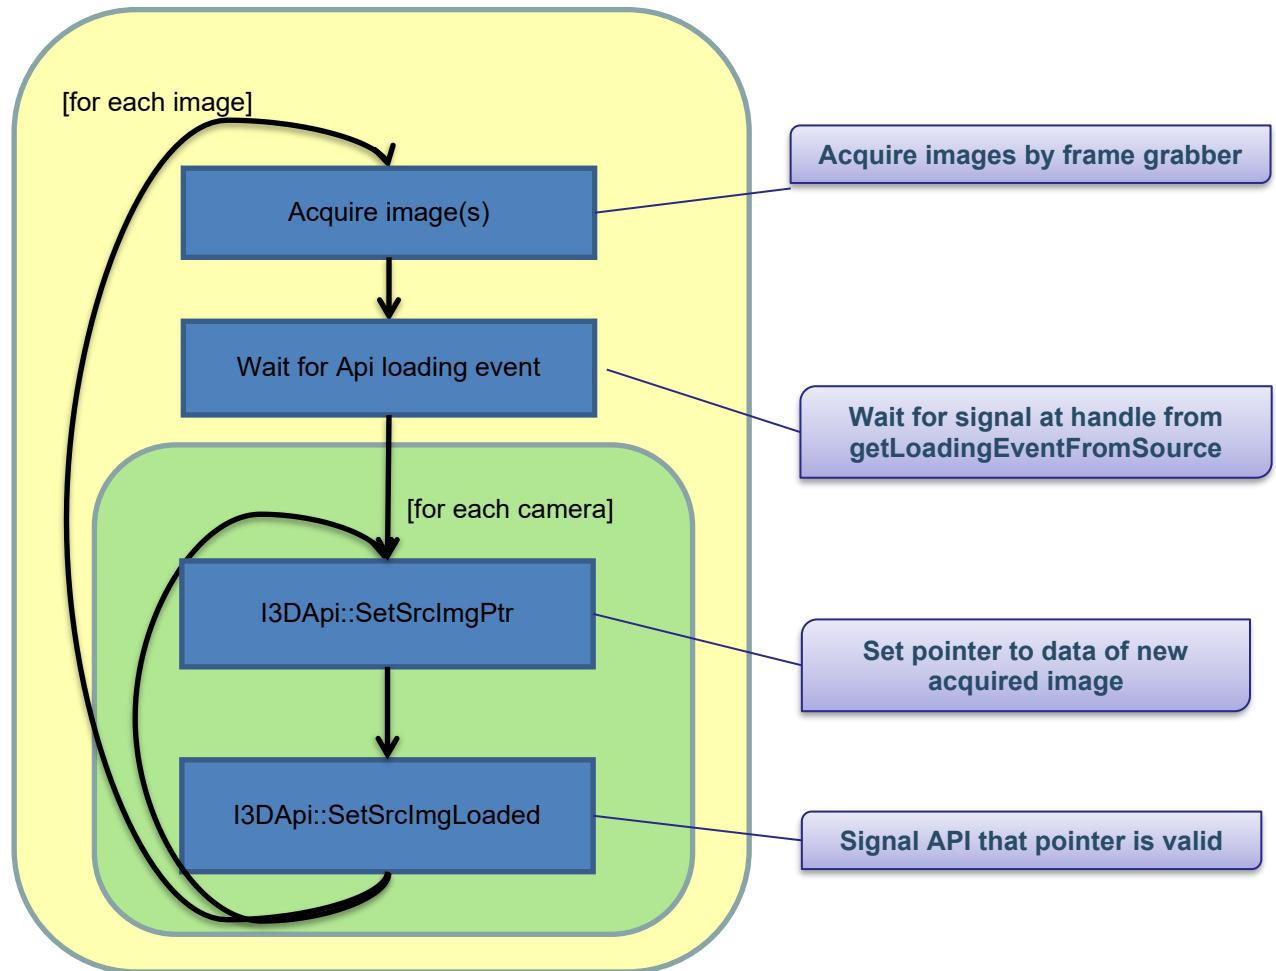

Figure 6: Manual Loading Process
- 1.) Manual approach with a bit more control over the workflow, see Figure 6.